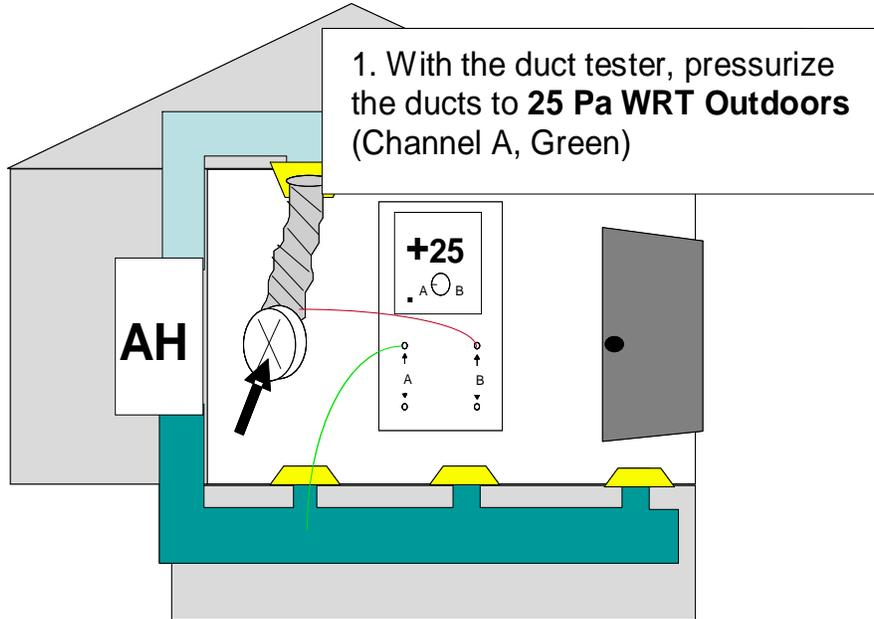

Figure 1: Pressurizing the duct system
1. With the duct testing device, pressurize the ducts to **+25 Pa with respect to (WRT) outside** (Figure 1).